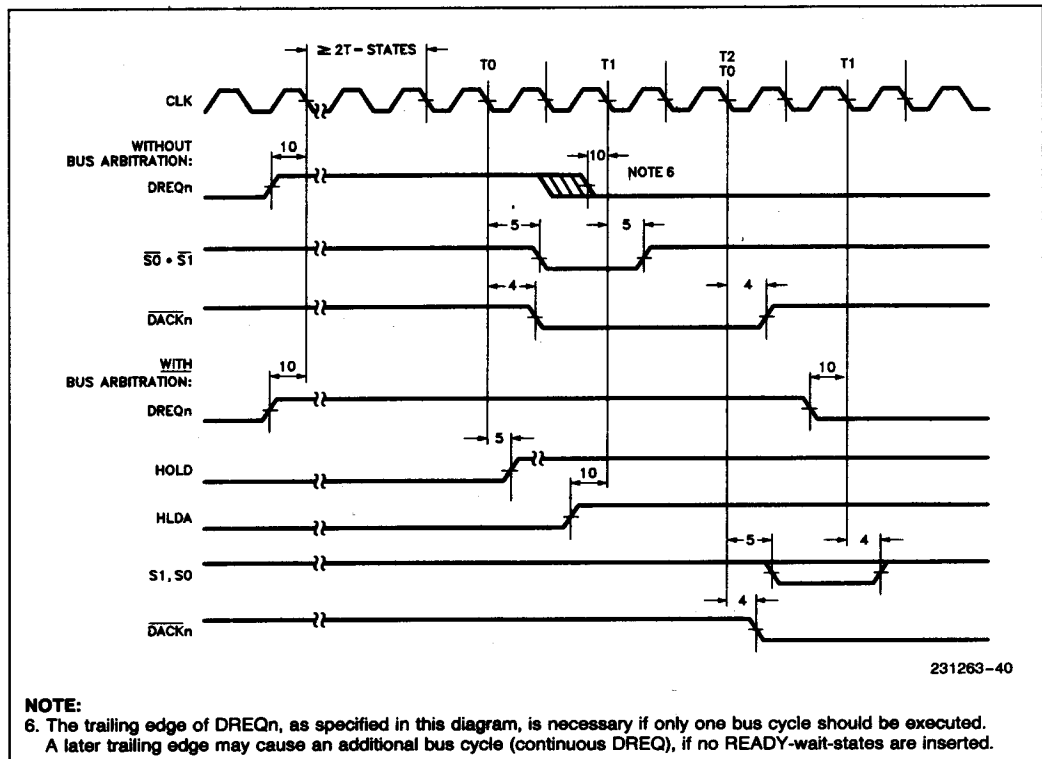

Figure 41. DREQ, DACK Timing (286 and Remote Modes)
- Figure 41 was updated. The new timing diagram completely separates the DREQ, DACK# timings from "without bus arbitration" and "with bus arbitration".